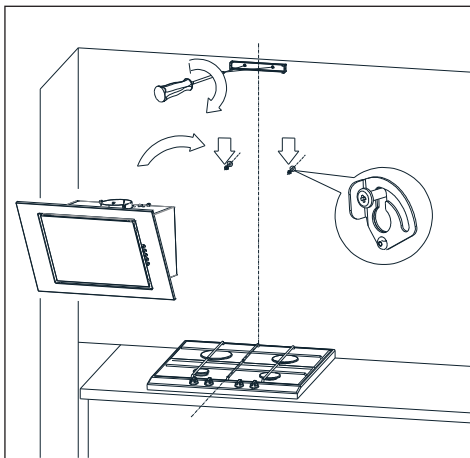

Fig.6 Hood hanging
3. Screw the chimney body fastening element, hang the hood on two untightened screws (Fig.6).